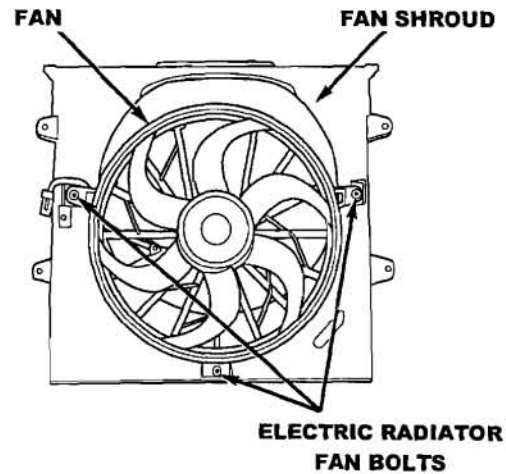

Figure 2
- Remove the three bolts attaching the electric radiator fan to the fan shroud. (Figure 2).
- Position the new electric radiator fan and install the three bolts holding the electric radiator fan to the shroud (Figure 2). Tighten the fasteners to 50 in. lbs. (6 N·m).